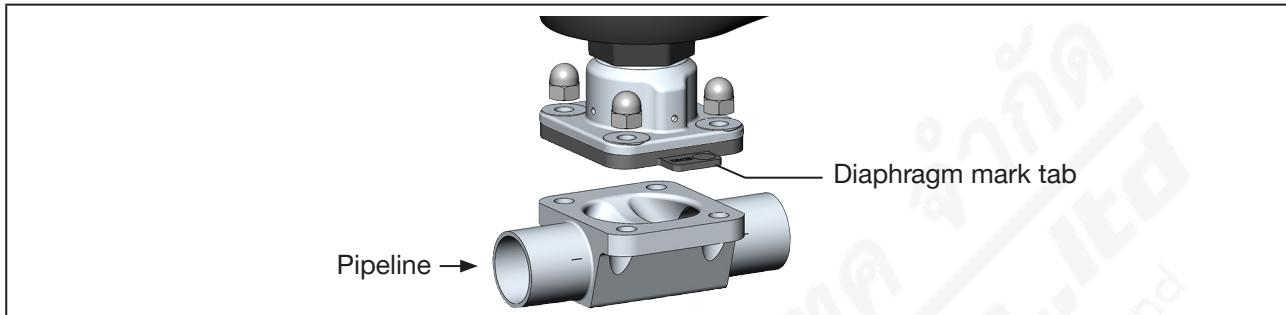

Fig. 102: Aligning the diaphragm (example 2-way body)
The mark tab of the diaphragm must protrude from the valve body at a right angle to the longitudinal axis of the pipeline (see “Fig. 102”).
- Align diaphragm. The mark tab of the diaphragm must protrude from the valve body at a right angle to the longitudinal axis of the pipeline (see "Fig. 102").
-  Before installing the actuator, check whether the diaphragm is free of damage and correctly aligned. The mark tab of the diaphragm must protrude from the valve body at a right angle to the longitudinal axis of the pipeline (see "Fig. 102").